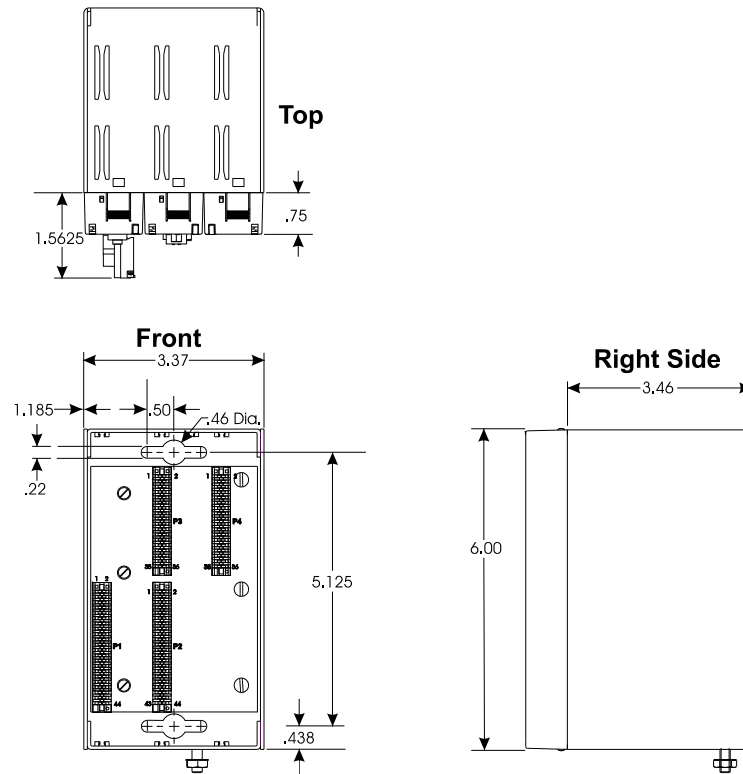
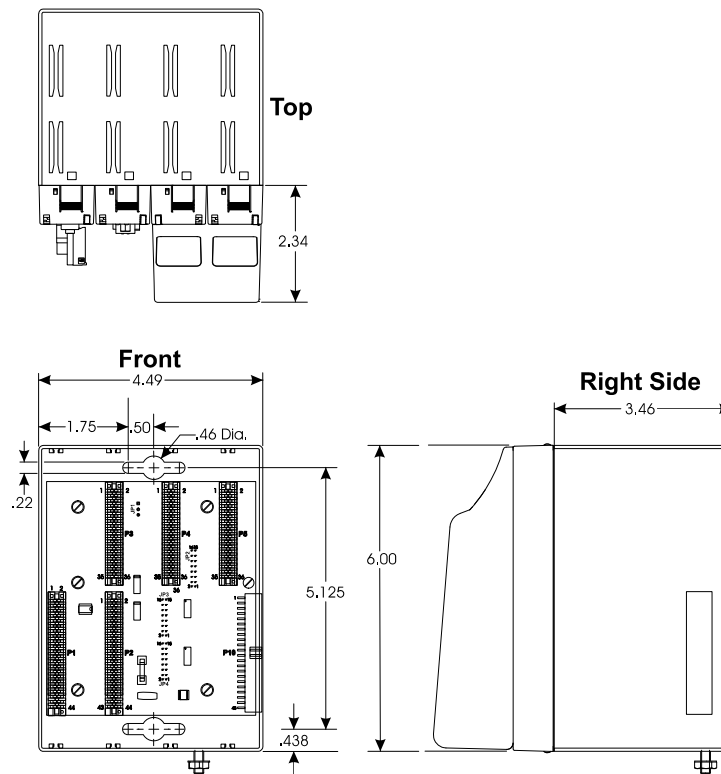
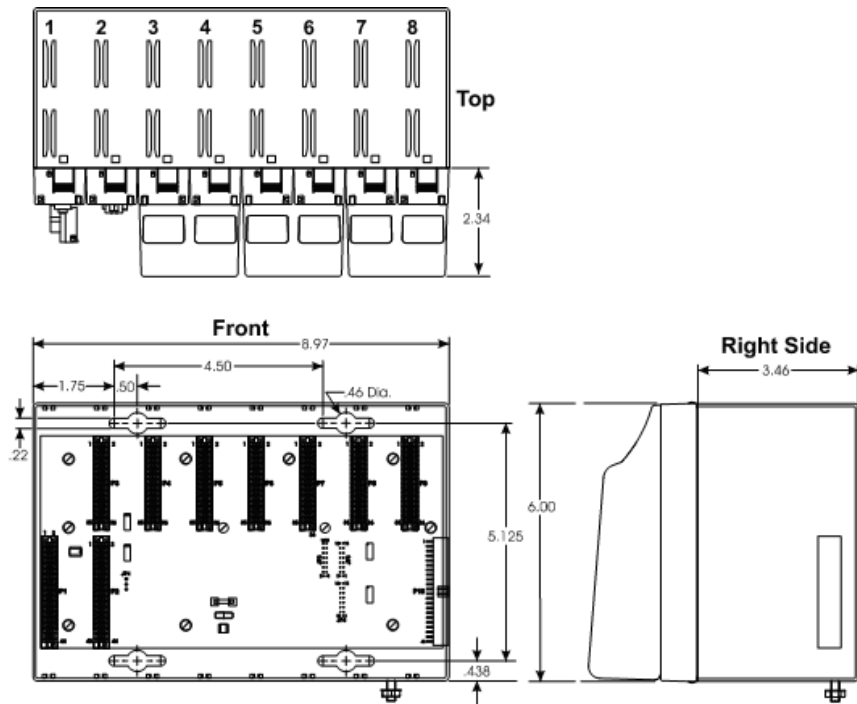
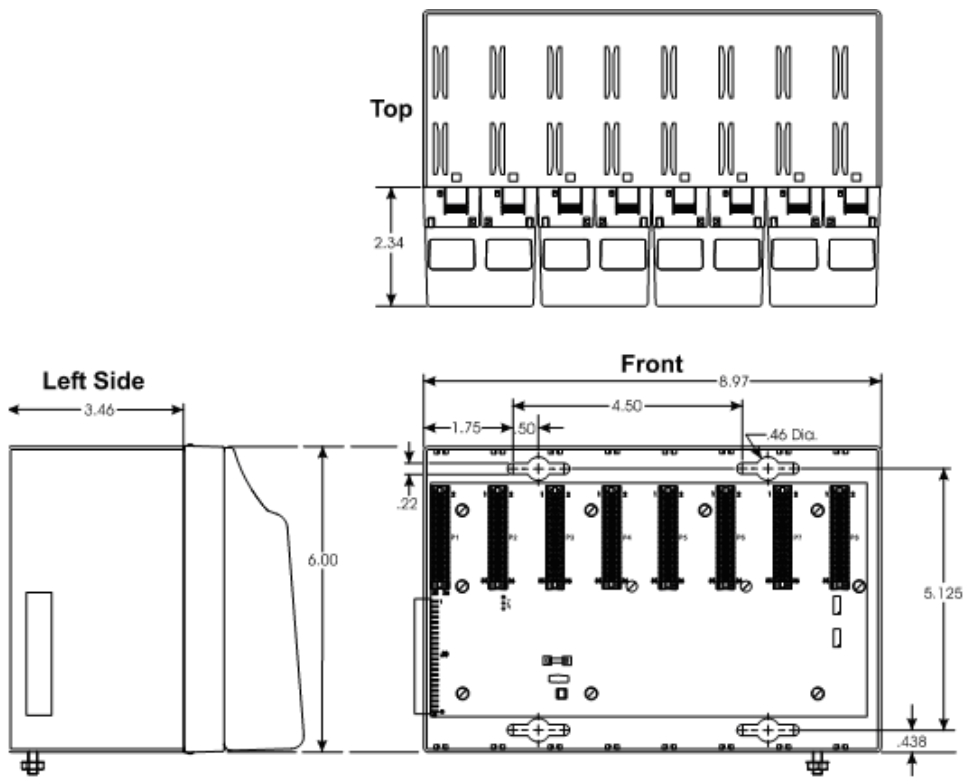

Figure 2-2. 3-Slot Base Housing
Figure 2-3. 4-Slot Base Housing
Figure 2-4. 8-Slot Base Housing
Figure 2-7. 8-Slot Expansion Housing
Keyed cutouts in the housing’s rear wall (see *Figure 2-2* through *Figure 2-7*) permit wall or panel mounting. The base housing has the following components:
Composed of aluminum (plated with gold irridite), the base housing has three configurations (3-slot, 4-slot, or 8-slot backplane). Optional I/O expansion housings (also gold irridite-plated aluminum) accommodate additional I/O modules in three configurations (2-slot, 4-slot, or 8-slot backplanes), and can be either wall- or panel-mounted or rack mounted with a DIN-rail. Refer to *Figure 2-2* through *Figure 2-7* for dimensional drawings of the three base housings and three expansion housings.
- Use the mounting holes provided in the base and expansion housings (see *Figure 2-2* through *Figure 2-7*).
Base housings have a ground lug (see *Figure 2-2* through *Figure 2-7*) that accommodates up to a #4 AWG wire size. Once you have installed the base and any expansion housings, you must run a ground wire between the base housing ground lug and a known good earth ground.
The Power Supply/Sequencer module (PSSM) plugs into slot #1 (first slot from the left) on the ControlWave Micro's backplane using connector P1, a 44-pin female non-keyed header (see *Figure 2-2*, *Figure 2-3* and *Figure 2-4*).